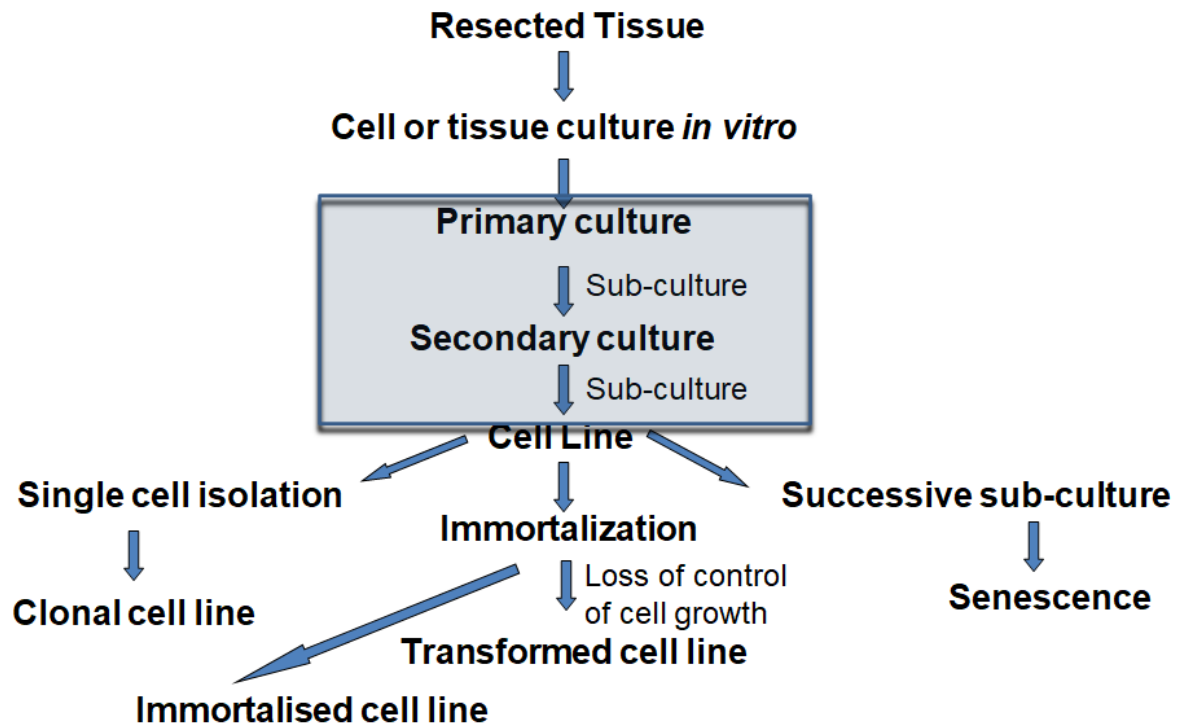

Figure 4 The flowchart of processing tissues from animal into established cell line
- Generally requires series of subculturing (Figure 4 in blue box) for proper adaptation to become in-vitro cell line.